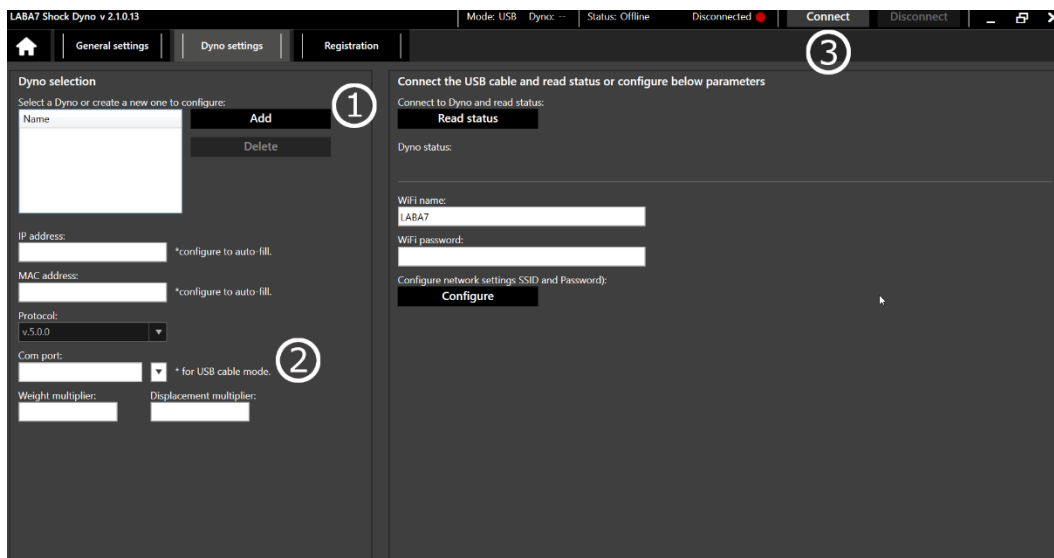

Figure 20
7. Press “add” (Figure 20 – Step 1).
8. From 2 newly appeared com-ports select `COM6 - LABA7 Dyno` (Figure 20 – Step 2)
9. Click on the Read Status button (Figure 20 – Step 3).
11. Check the USB icon in the top right corner, it should be green (Figure 20 – Step 3).